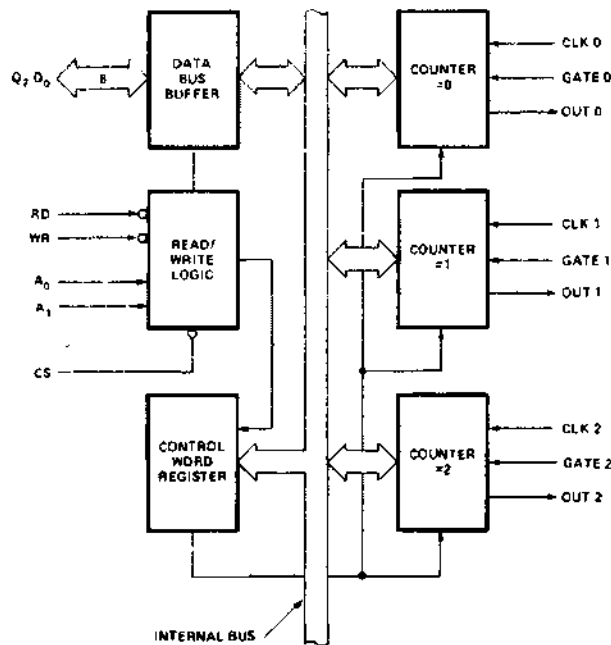

Figure 1. Block Diagram
1. AC timings measured  $V_{OH} = 2.0$ ,  $V_{OL} = 0.8$ , and with load circuit of Figure 1.
2. Chip Select (CS) and Command/Data (C/D) are considered as Addresses.